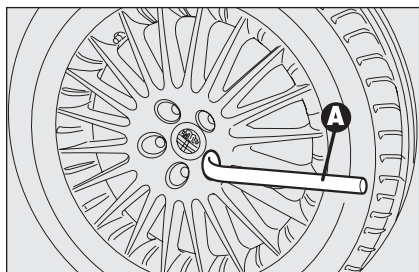

fig. 5
- ☐ Using the wrench provided **A-fig. 5** loosen the bolts of the wheel to be replaced by about one turn; shake the car to facilitate rim removal from the wheel hub;